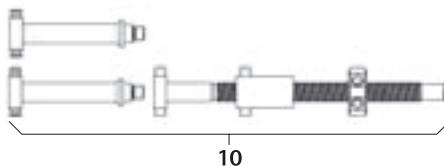

Fig. 14
- Mount distraction spindle **10**, see Fig. 14.